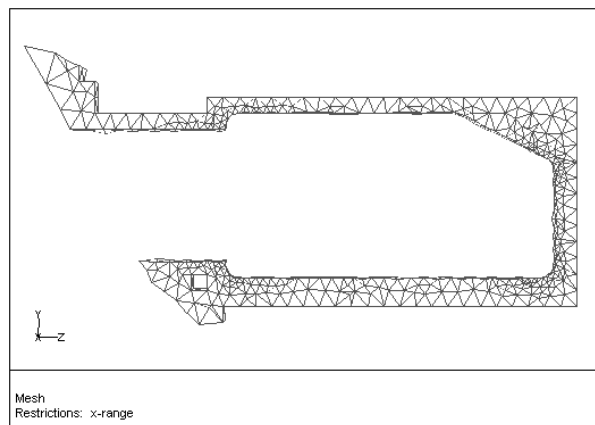

Figure 8.18: Remeshed Cavity
8. Examine the remeshed cavity by displaying the cells in the plane $x = -0.37$ (Figure 8.18).
In Figure 8.18, you can see that the cavity has been remeshed with tetrahedra.